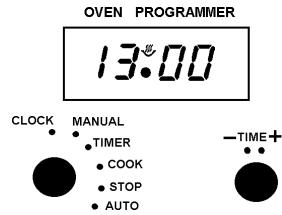

Fig.6
10. CHECKING THE MAIN OVEN CONTROLS TO SET THE TIME OF DAY (see Fig.6)